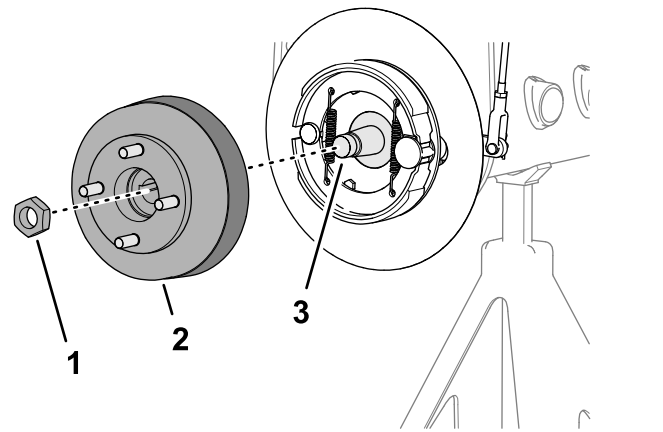

**Figure 61**
1. Remove the locknut that secures the hub to the wheel-motor shaft (Figure 61 or Figure 62).
4. Use the specified wheel hub puller to remove wheel hub and brake drum from the wheel-motor shaft (Figure 61 or Figure 62).